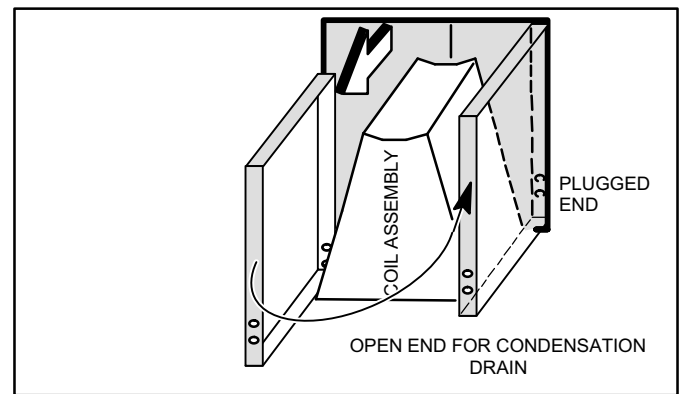

Figure 6. Right-Hand Drain Plug Location
5. Move the horizontal drain pan to the opposite side of the coil. Be sure drain holes toward the back of the unit are plugged (see figure 6). Remove the plugs from the front drain pan ports.